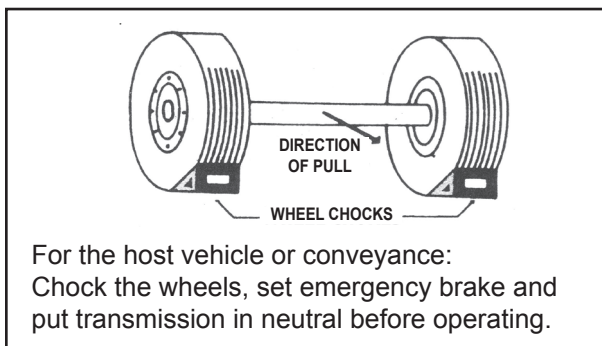

Figure 4
1. Place vehicle in desired location, engage the emergency brake and chock the wheels to prevent from rolling (Fig. 4).